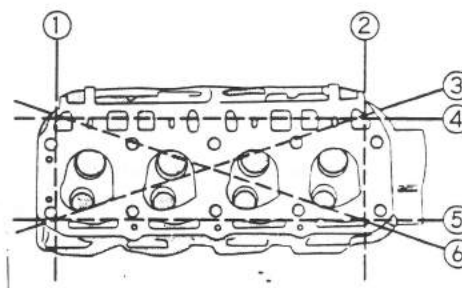

Fig. 63
To check the cylinder head bottom for bend, measure the points (1) ~ (6) of the cylinder head bottom shown in Fig. 63 using a thickness gauge and a surface gauge. If the measured value is beyond the limit, correct it with a surface grinder.